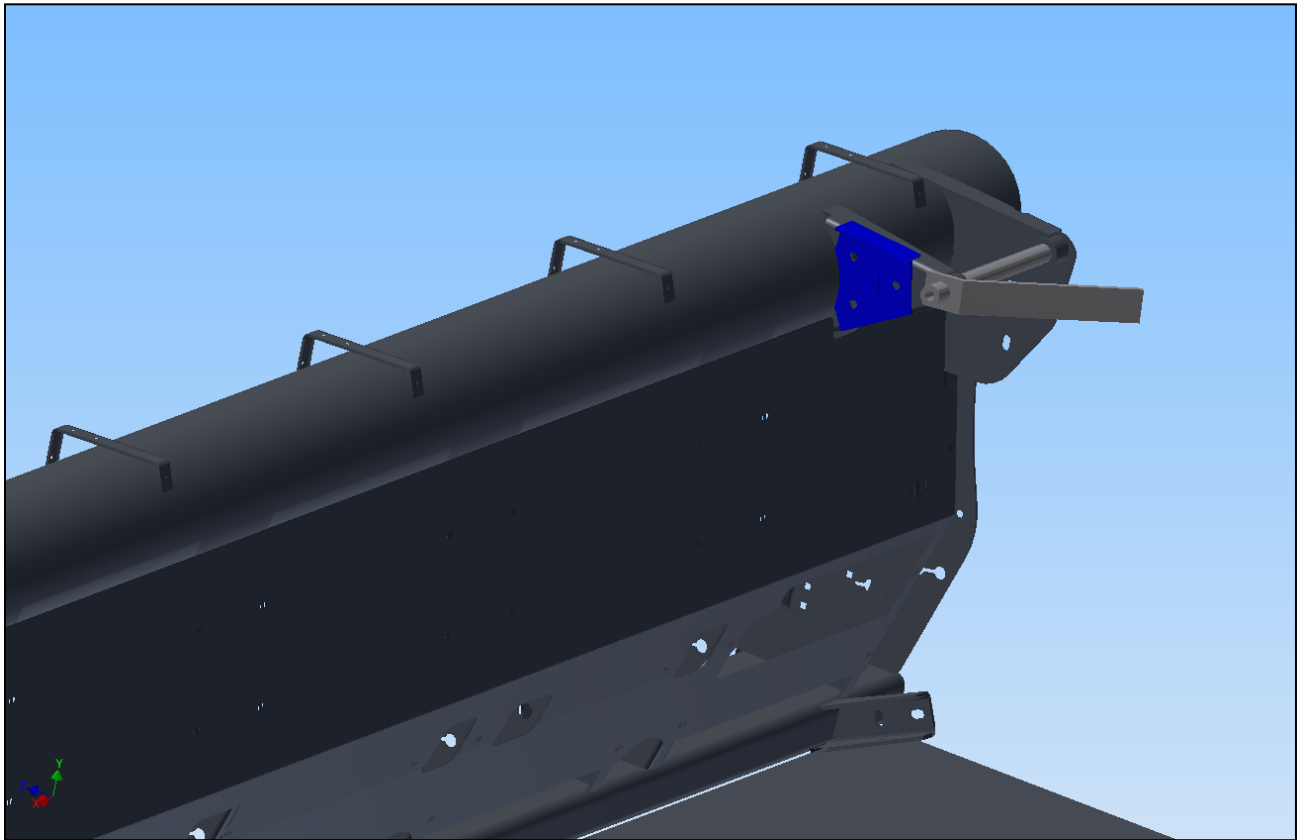

FIGURE 3 TEMPLATE ON LEFT HAND MOUNT READY TO DRILL
- 5) Move the template to the left end and repeat the drilling process. See Figure 3 Template on Left hand mount ready to drill